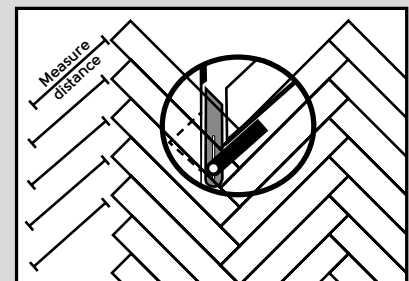

Fig. 9
10. Cutting and installing planks at the walls should be done as follows: Measure and mark the planks as shown in the diagram. The angle for the wall can be determined using an angle finder (see below) (Fig. 9).